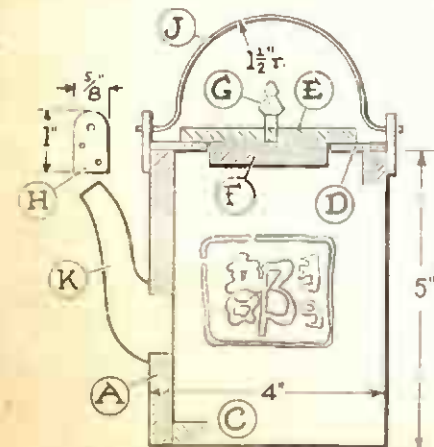

Fig. 2—Section showing parts
First cut two sides (A) of 5in. by 3½in. by ½in. solid wood, and two other sides (B) of 5in. by 4in. by ½in. stuff. Odd pieces of different kinds of wood can be used as they are afterwards painted. These four sides can be nailed up to form a carcase 5in. high and 4in. square. A base (C), 3½in. square by ½in. thick is added. Before nailing up, however, a slot for the spout (K) is cut in one side. More of this in a moment. A section of the whole thing is seen in Fig. 2.
in Fig. 2. To avoid confusion of the drawing, the characters are shown in outline, but in actual practice they are done in solid black.